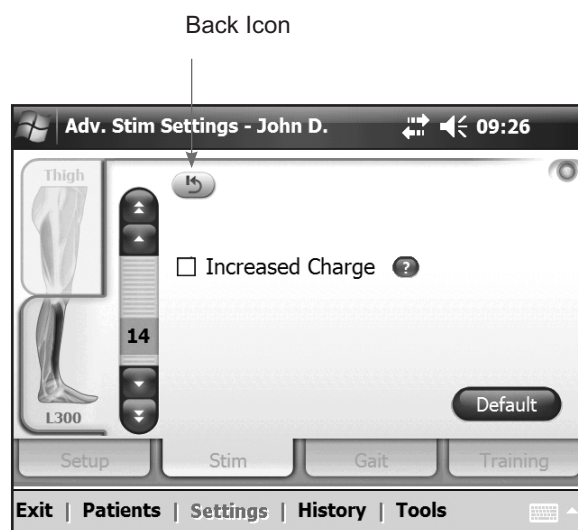

Figure 7-21: **L300 tab**, Advanced Stim Settings window.
2. From the Advanced Stim Settings window, check the box next to **Increased Charge**. See Figure 7-21.